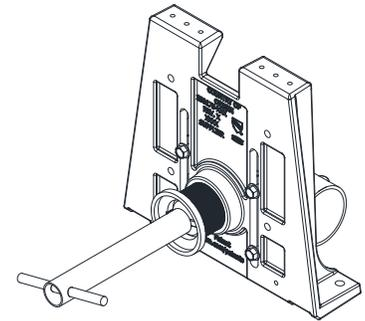

Figure 7a
- a. Standard, -CS, and -CC Couplings: Thread the coupling into the faceplate by hand until it engages the o-ring and begins to resist. Using a coupling wrench (Z1200-CPLG-WRNCH-3 purchased separately), continue to turn the coupling into the o-ring to create a water-tight seal. See Figure 7a.